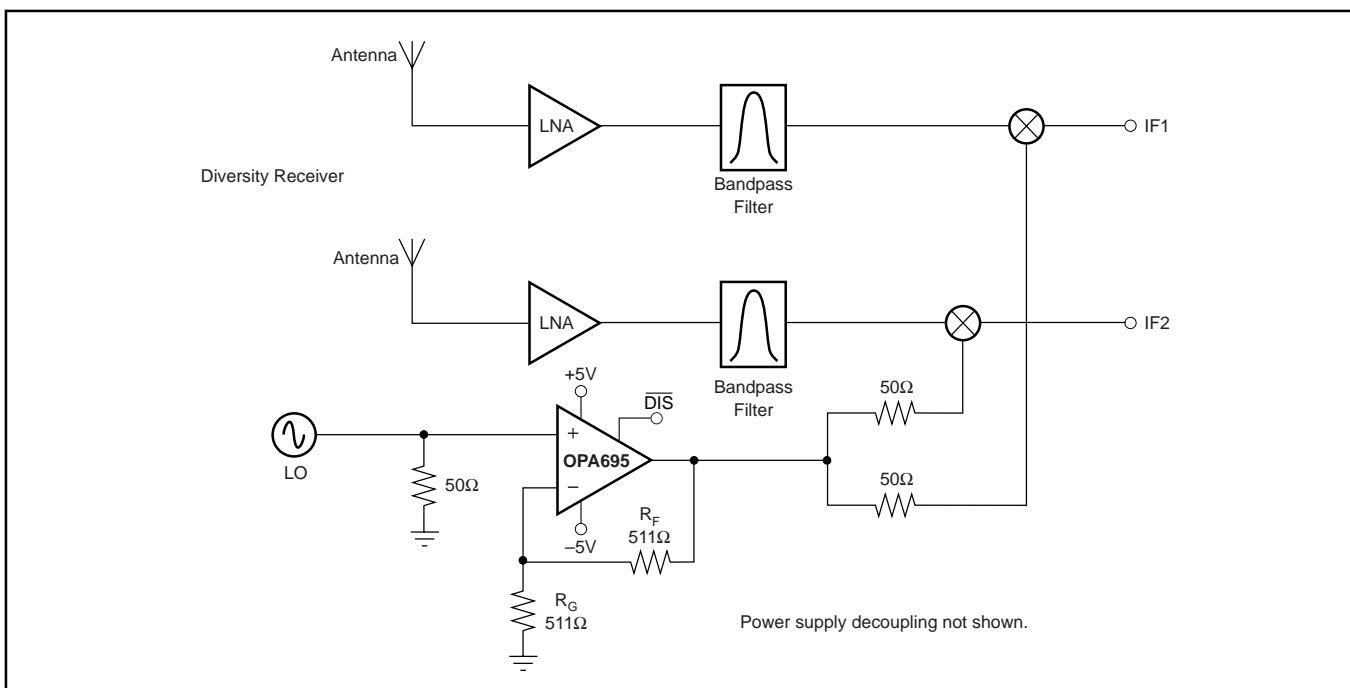

FIGURE 8. Dual Output LO Buffer.
The OPA695 may also be used to buffer the Local Oscillator (LO) from the mixer(s). Operating at a voltage gain of $+2$, the OPA695 will provide almost perfect load isolation for the LO with a net gain of 0dB to the mixer. Applications through 1.4GHz LOs may be considered, but best operation would be for LOs $< 1.0\text{GHz}$ at a gain of $+2$. Gain could also be easily provided by the OPA695 to drive higher power levels into the mixer. One unique option in using the OPA695 as an LO buffer is shown in Figure 8. Since the OPA695 can drive multiple output loads, two identical LO signals may be delivered to the mixers in a diversity receiver simply by tapping the output off through two series 50Ω output resistors. This circuit is set up for a voltage gain of $+2V/V$ to the output pin for a gain of $+1V/V$ (0dB) to the mixers, but could easily be adjusted to deliver higher gains as well.